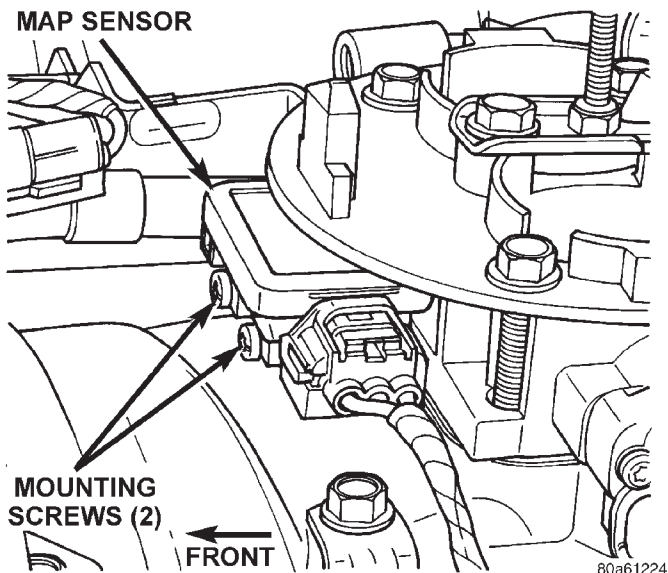
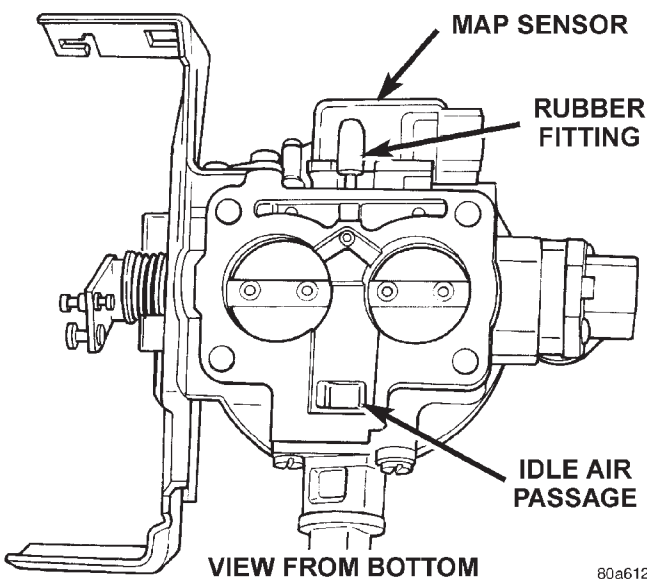

Fig. 43 MAP Sensor Location—3.9/5.2/5.9L Engines
Fig. 44 MAP Sensor L-Shaped Rubber Fitting—3.9/5.2/5.9L Engines
The MAP sensor is located on the front of the throttle body (Fig. 43). An L-shaped rubber fitting is used to connect the MAP sensor to throttle body (Fig. 44).
- (1) Remove air duct at throttle body.
- (2) Remove two MAP sensor mounting bolts (screws) (Fig. 43).
- (3) While removing MAP sensor, slide the vacuum rubber L-shaped fitting (Fig. 44) from the throttle body.
- (4) Remove rubber L-shaped fitting from MAP sensor.